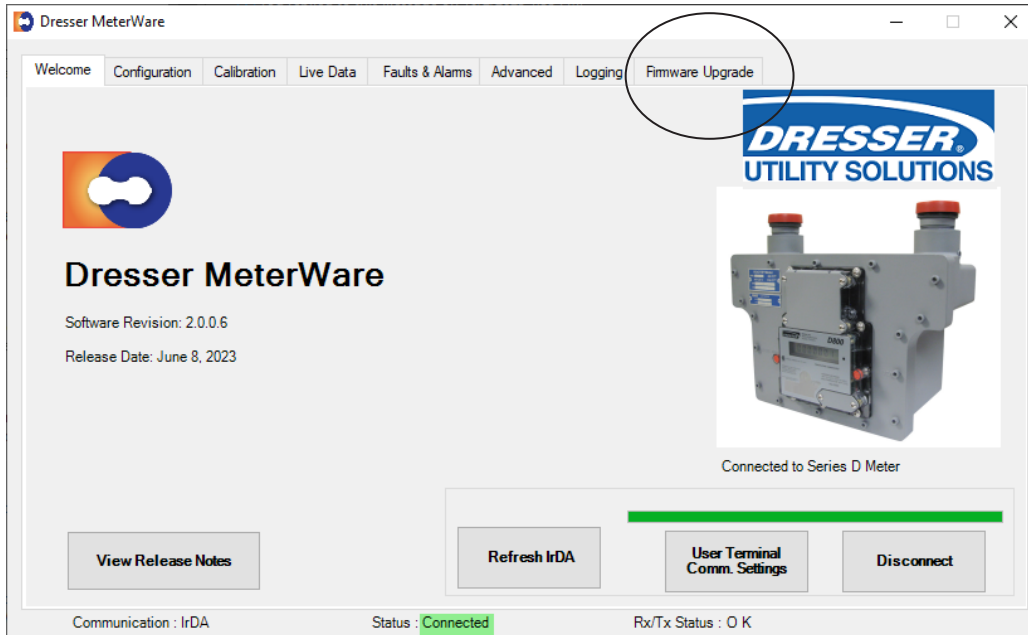

Figure 12.2 Example- Firmware Upgrade Tab
1. From the Welcome Screen in the MeterWare software, select the **Firmware Upgrade** tab refer to Figure 12.2 Example.